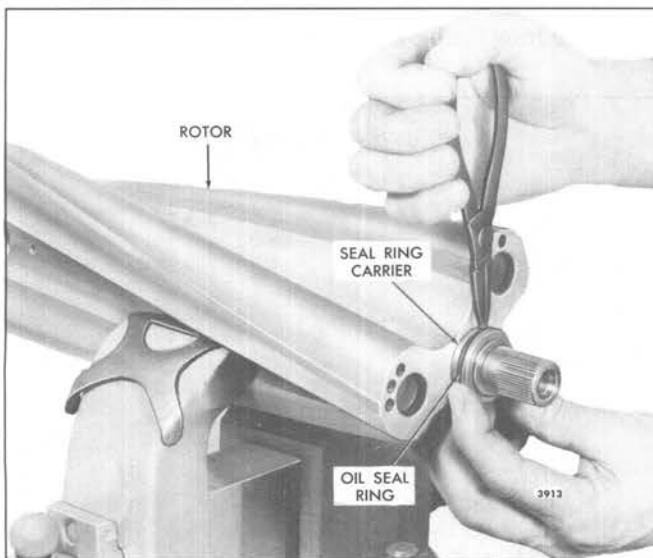

Fig. 10 - Removing Oil Seal Ring from Carrier (Turbocharged Engine Blowers)
- a. Clamp one lobe of the rotor in a bench vise equipped with soft jaws (Fig. 10). Tighten the vise just enough to hold the rotor stationary.
- b. Remove the oil seal ring from the seal ring carrier on each blower rotor shaft with a pair of snap ring pliers (Fig. 10).
- e. Install an oil seal ring in the ring groove of each carrier with a pair of snap ring pliers in the same manner as shown in Fig. 10.